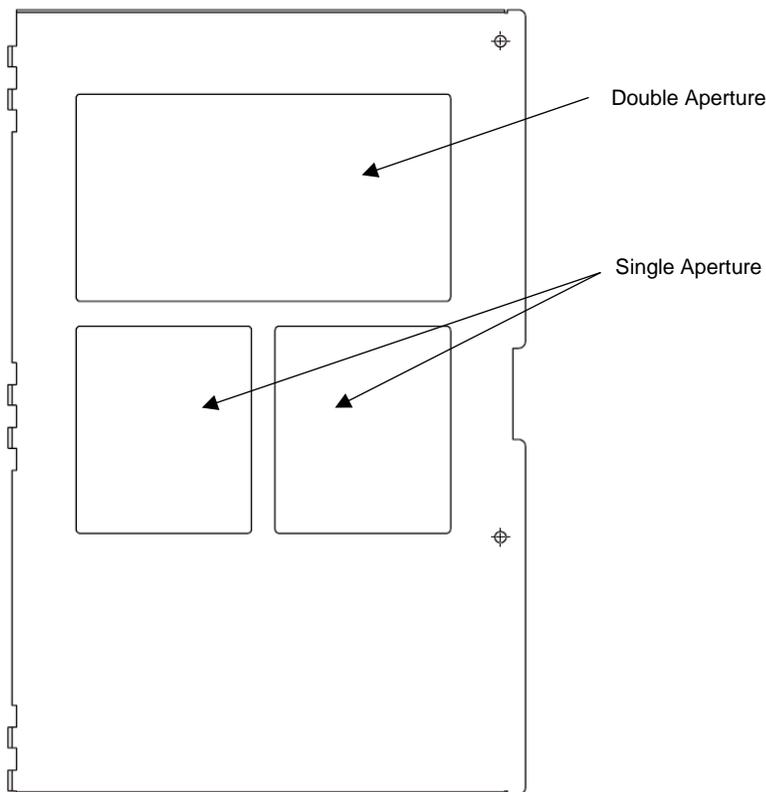

Figure 2 – NX-FA01-ID1 Inner Door
The NEO Intelligent Fire Alarm Control Panel inner door supports one (1) double aperture module and two (2) optional single aperture modules. The inner door is preassembled with; one NX-ACS-DSP alphanumeric graphic display, in the double aperture location and two NX-FA-SAPs single aperture plates, in the single aperture locations (see figure 2).